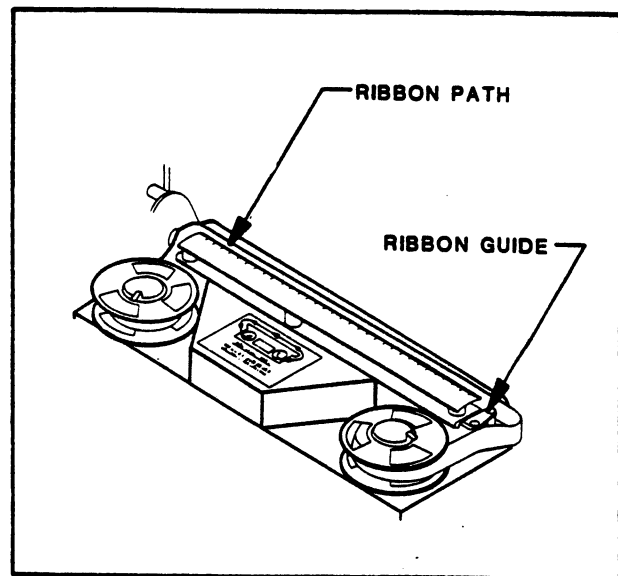

FIGURE 2-9.
2. Unlock both ribbon spools by pulling latches toward the center of the hubs. Lift spools from hubs, (Figure 2-9) clearing loose ribbon from the guides and ribbon slot. Discard used ribbon and spools.